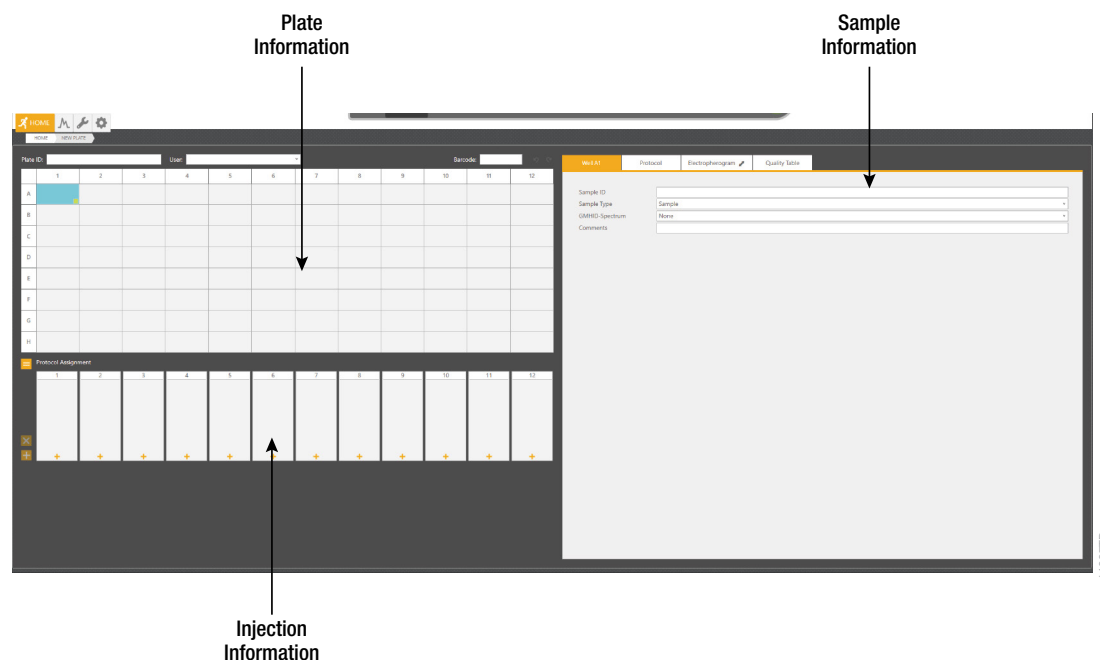

Figure 10. 'Plate' screen.
1. Select **New Plate** from the 'Home' screen. This will open a blank 'Plate' screen that is divided into three sections: Plate Information, Sample Information and Injection Information (Figure 10).
Alternatively, enter Sample IDs in the 'Sample ID' field of the Sample Information section (Figure 10).